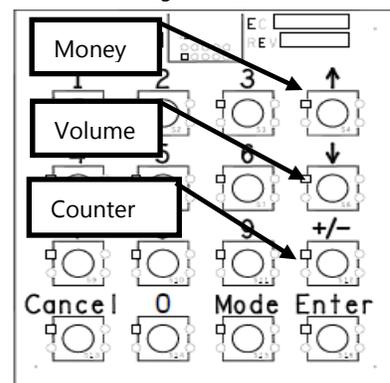
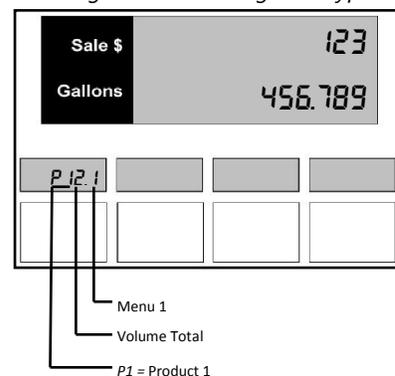
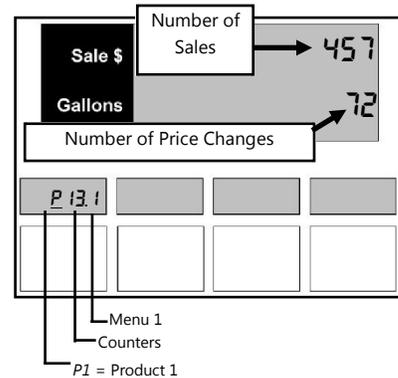
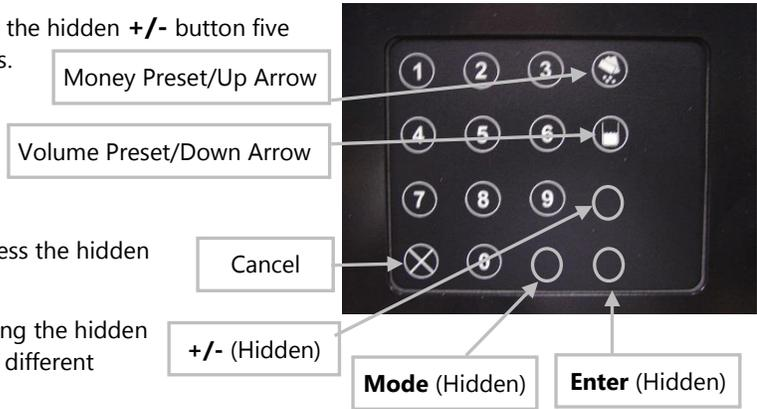

Figure 1.3 – Manager's Keypad
Figure 1.4 – Volume Totals
Figure 1.5 – Counters Totals
Figure 2.4 – Local Preset Keypad
1. Press the ↓ button as shown in *Figure 1.3* or as shown in *Figure 2.4*. The money and volume displays indicates Hose A volume totals as shown in *Figure 1.4*. The main display shows the total volume amount. For example, see *Figure 1.4* if the total volume amount for the dispenser is 234,567.890 gallons/liters. These totals are accumulative and cannot be changed. The dispenser can carry the volume amount to three decimal places for gallons and two decimal places for liters.
1. Press the +/- button as shown in *Figure 1.3* or as shown in *Figure 2.4*. The main display indicates Product 1 counter totals as shown in *Figure 1.5* located on the next page. The top line of the display shows the number of sales for Product 1. The sales counter is incremented each time a sale is ran on that nozzle. The bottom line of the display shows the number of price changes for Product 1. The price change counter is incremented each time a price is changed for that nozzle.
2. Tap the magnet over the left side of the volume display print again to read the Volume Totals for Product 1. **P12.1** is displayed in the PPV display to indicate the first Volume Total for Product 1 as shown in *Figure 1.4* located on the previous page.
3. Tap the magnet over the left side of the volume display print again to read the Counters Totals, which is the Number of Sales and Number of Price Changes for Product 1. **P13.1** is displayed in the PPV display to indicate the first Counter Totals for Product 1 as shown in *Figure 1.5*.
1. Using the keypad seen in *Figure 2.4*. Press the hidden +/- button five times to cycle through the dispenser types.